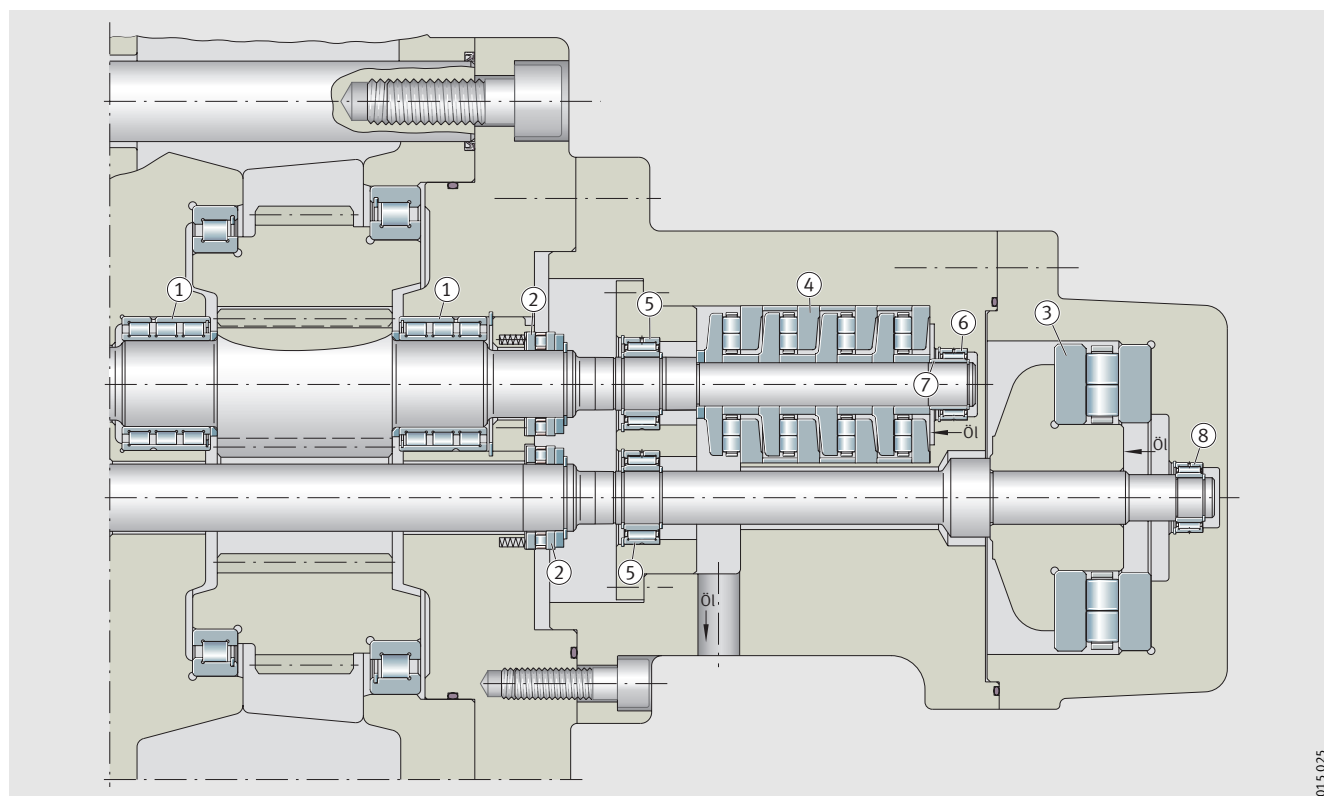

Figure 5 · Twin screw extruder gearbox
- with radial guidance, for example by means of needle roller bearings, *Figure 5*, page 4
Design solution, *Figure 5*